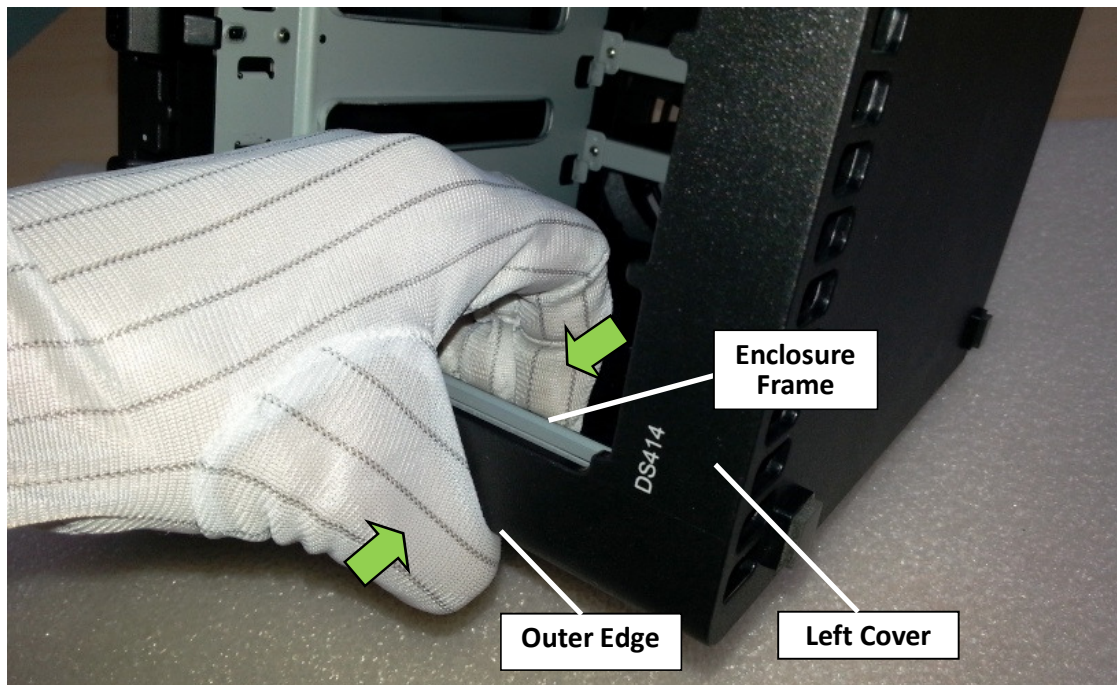

Fig. 6
2.1.5 Then put your thumb over the outer edge of the left cover to grab the enclosure frame and the left cover at the same time. Push to let the two tenons skim under and bypass the enclosure frame until the left cover and the enclosure frame/right cover are separated. (Fig. 6)